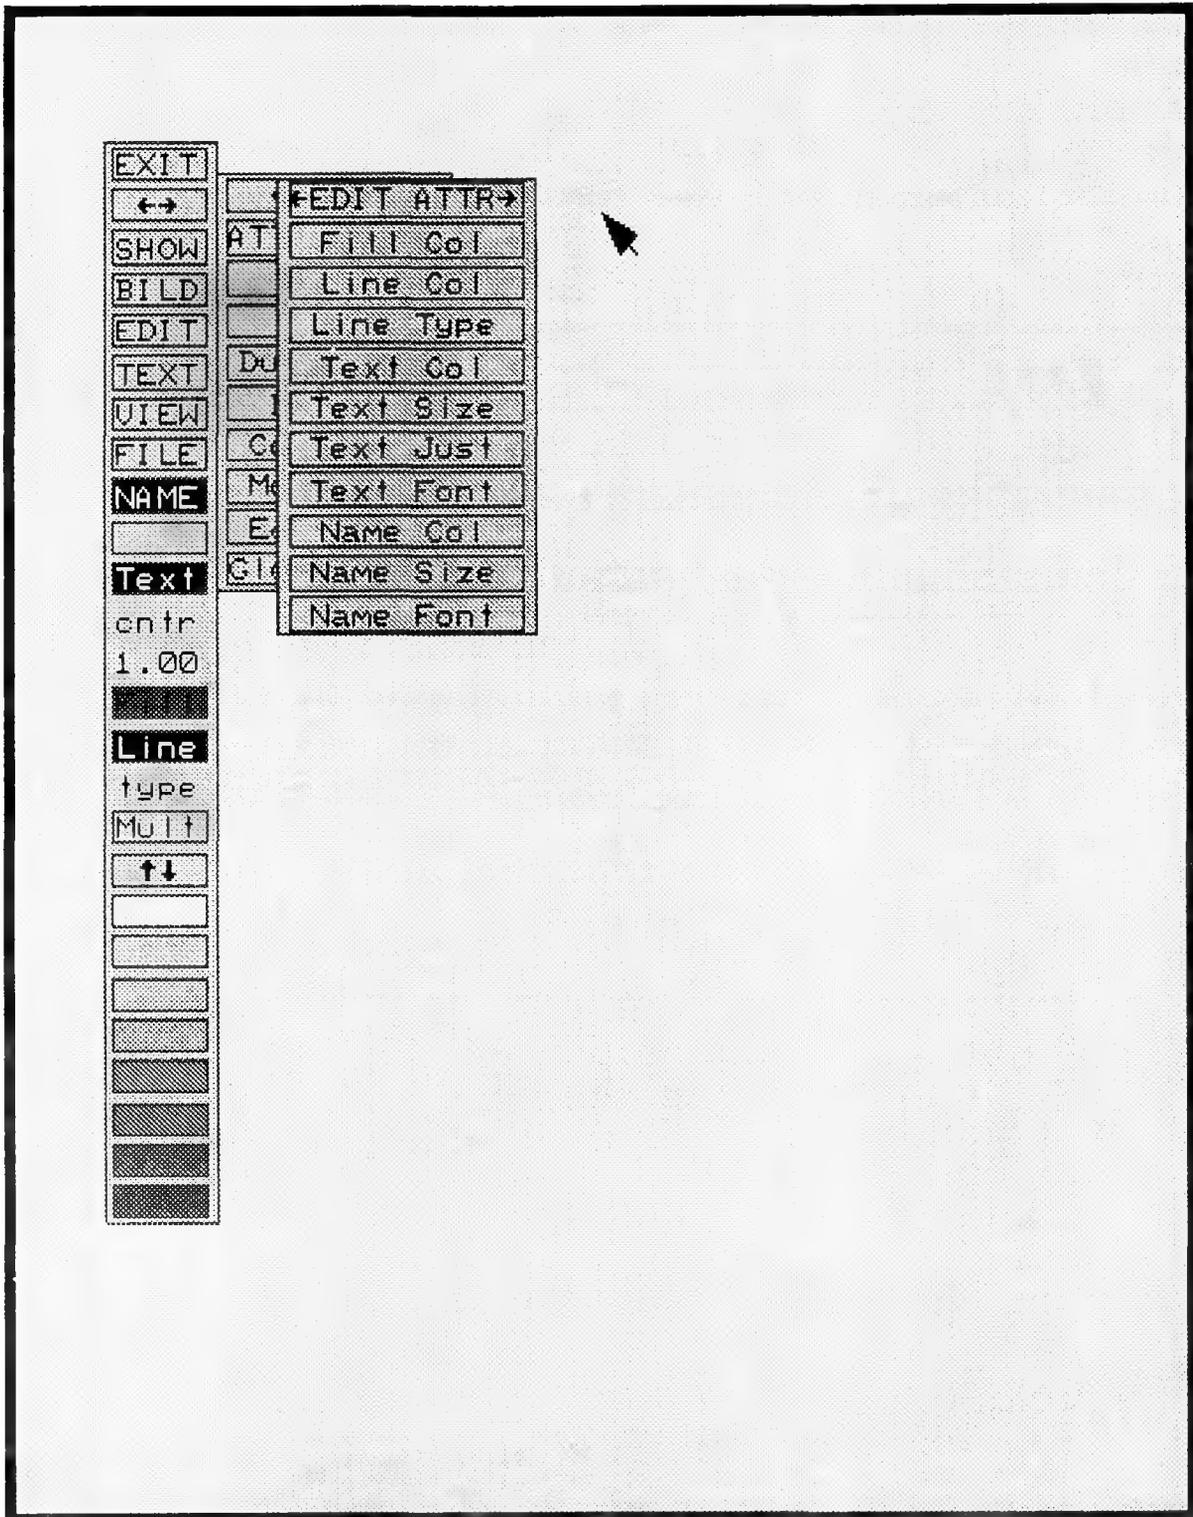

Figure 14. Attributes pop-up menu.
4.1.5.1 ATTRIBUTES. This option allows you to specify the actual attributes of the symbols and text used in the fault tree diagram. Attributes include text size, line type, fill, font size, etc. Changing the attributes does not affect the global (default) values. Only the specific objects selected while in the given mode (i.e., Fill Col, Line Col, etc.) will be affected. When you invoke this option an additional pop-up menu is displayed as shown in Figure 14. The following attributes may be modified: